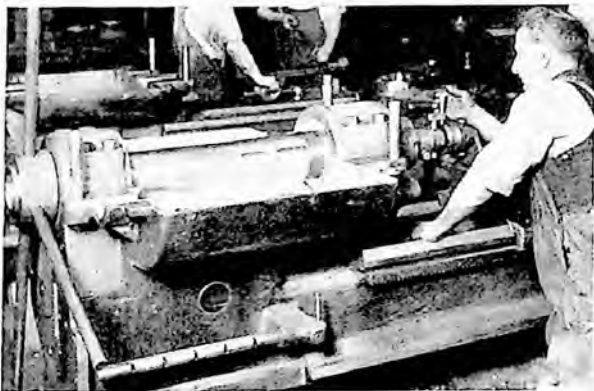

Fig. 4—Checking a Reconditioned Machine to Make Sure that Spindle Lies Parallel with Bed
- b. Check to determine the angle at which spindle lies in relation to the refitted bed bearing. Mount a plug in one turret hole and a simple fixture, such as illustrated in Fig. 4, in the spindle. Move turret close to spindle and take readings 180 deg. apart in the horizontal plane. Move the turret 12 in. back and compare sim-